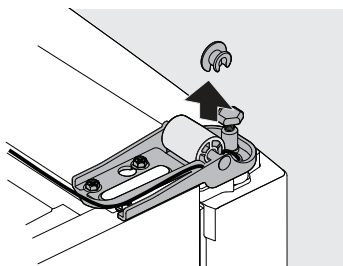

Figure 2
5. Route the gray cable and the connectors out from under the wheel axle and the wheel spacer (see Figure 2).